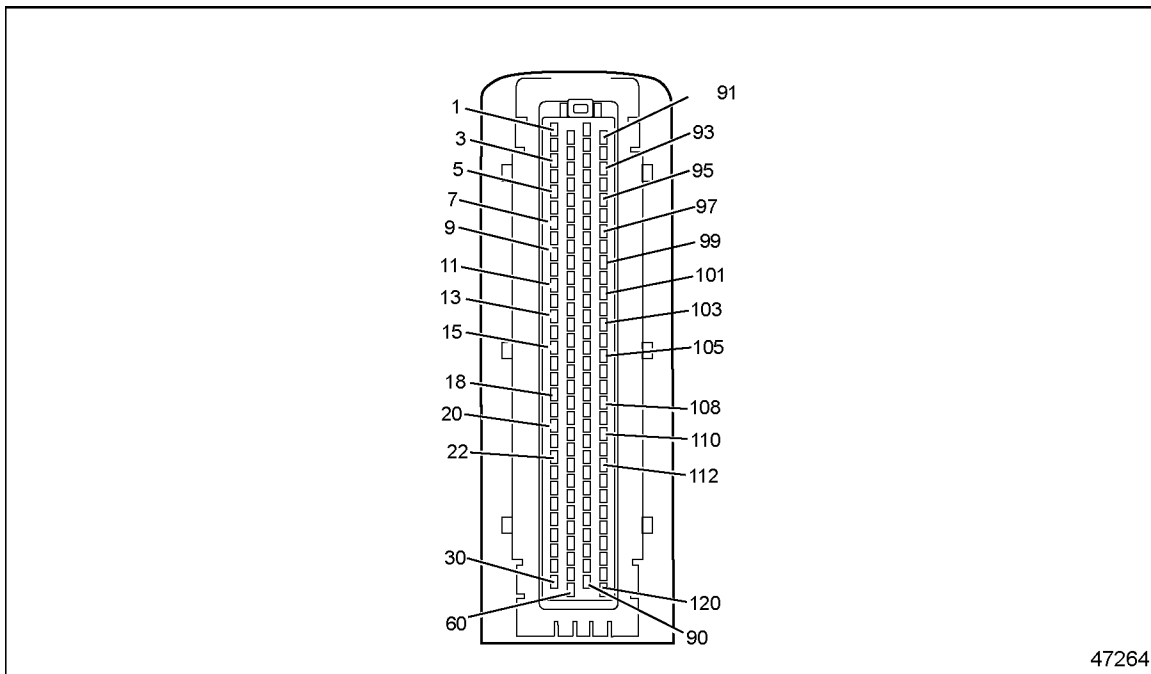

Figure 44-1 120-pin MCM Connector
- [a] If the voltage is less than 11.5 volts, repair the open between pin N of the 23-pin connector and pin 12 of the MCM 120-pin connector (see Figure 44-1) . Refer to section 44.1.3.1.